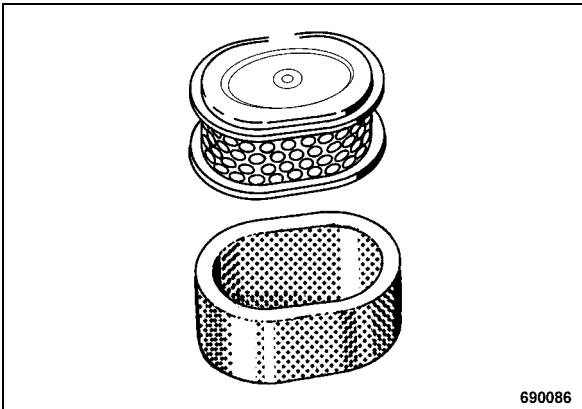

Fig. 71
- Pull the foam rubber insert over the paper element (Fig. 71).